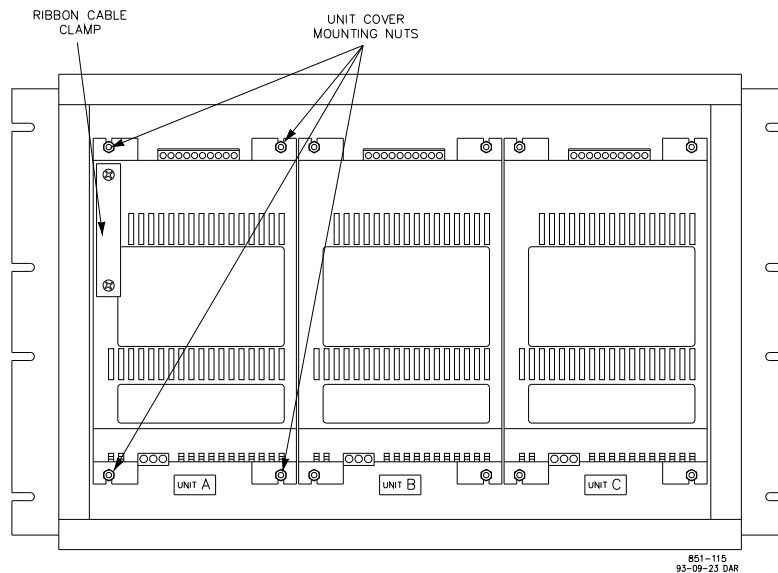

Figure 5-2. Unit Covers Inside the ProTech Device
- If you're replacing a fuse in Unit A, remove the ribbon-cable clamp and retain for use when re-installing the cover (Figure 5-2).
- Unplug the power supply board terminal block, then unplug the I/O board terminal block (Figure 5-2).
- Remove the four nuts on the unit's cover, and carefully lift the cover off (Figure 5-2). Retain the cover and the nuts to be reinstalled after changing the fuse.
9. If you've been working on Unit A, replace the ribbon-cable clamp onto the cover (Figure 5-2).
3. If you're replacing Unit A, remove the ribbon-cable clamp and retain for use when installing the replacement unit (Figure 5-2).
4. Unplug the power supply board terminal block, then unplug the I/O board terminal block (Figure 5-2).
5. Remove the four nuts on the unit's cover, and carefully lift the cover off (Figure 5-2). Retain the cover and the nuts to be reinstalled with the replacement unit.
13. If you've replaced Unit A, replace the ribbon-cable clamp onto the cover (Figure 5-2).